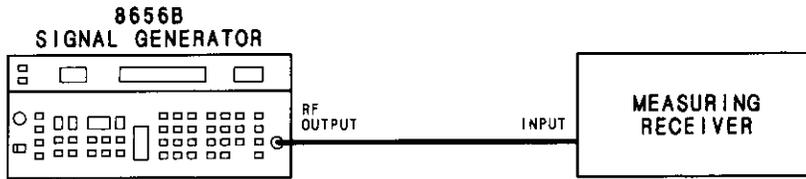

Figure 4-4. Residual FM Test Setup
12. Connect the RF OUTPUT of the Signal Generator under test to the input of the measuring receiver and the RF output of the signal generator to the LO input of the measuring receiver as shown in Figure 4-4.